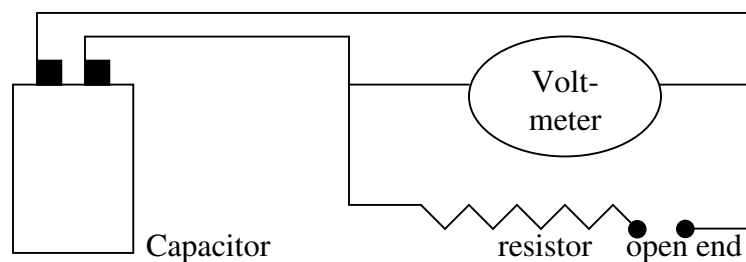

Figure 2: Capacitor Discharge Setup
1. Connect the ceramic, cylindrical capacitor as shown in Figure 2.